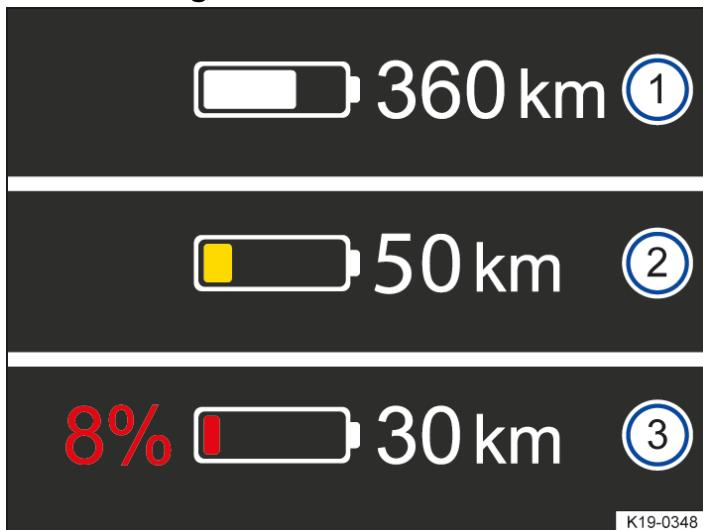

Fig. 2 In the digital instrument cluster: range and reserve capacity display.
The current charge level of the high-voltage battery is displayed in the digital instrument cluster by the symbol  → Fig. 2 (1). The fill level of the battery symbol changes with the charge level.
The vehicle range is specified in kilometres(km) or miles (mi), depending on the setting → *Fig. 2* 2.
When the red reserve range of the high-voltage battery is reached, the symbol  is displayed together with a colour percentage value → *Fig. 2* 3.